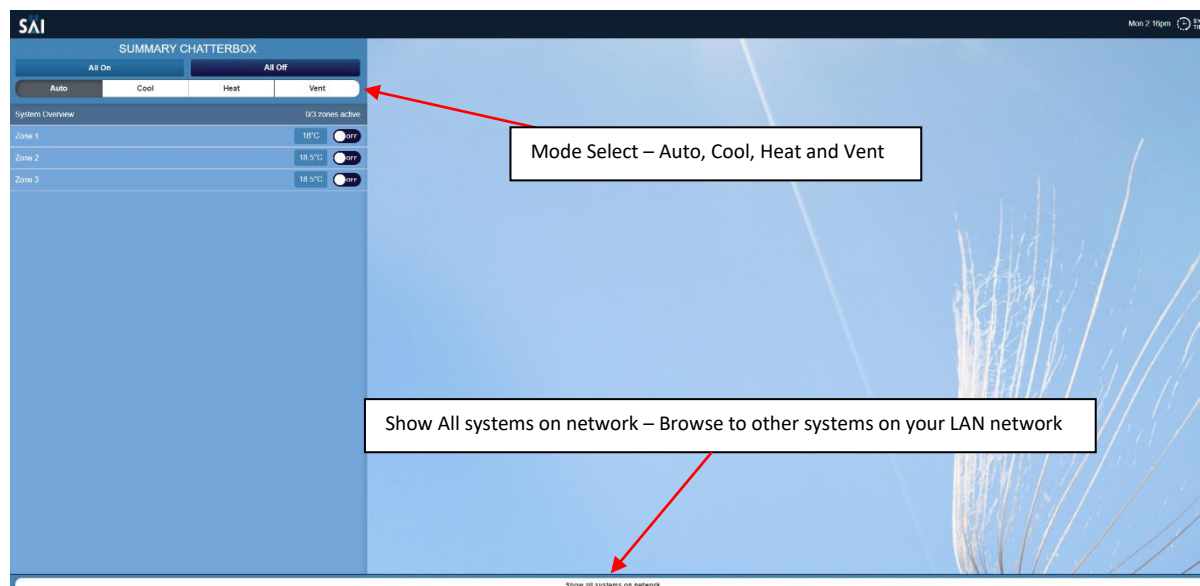

Figure 11 – Launch Page
6. To access the User interface for any of the systems press the Launch button on the right hand side. This will launch the interface and you can start to control your device. (Figure 11)
2. The Launch page will open. (Figure 11)
Press the Auto, Heat, Cool or Vent Buttons. (Figure 11)
You can use the “Show all systems on network” button to display all SAI HVAC systems installed. You can select which system you wish to control from here. (Figure 11)